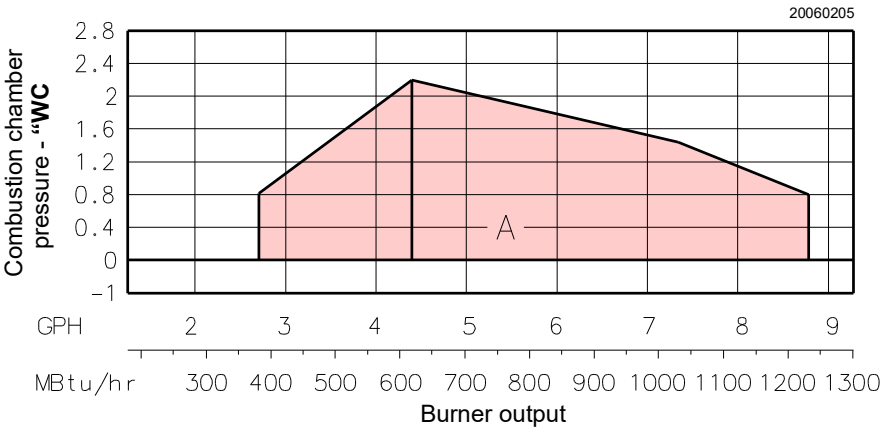

Fig. 4
- **MAXIMUM OUTPUT** must be selected in area **A** (Fig. 4).